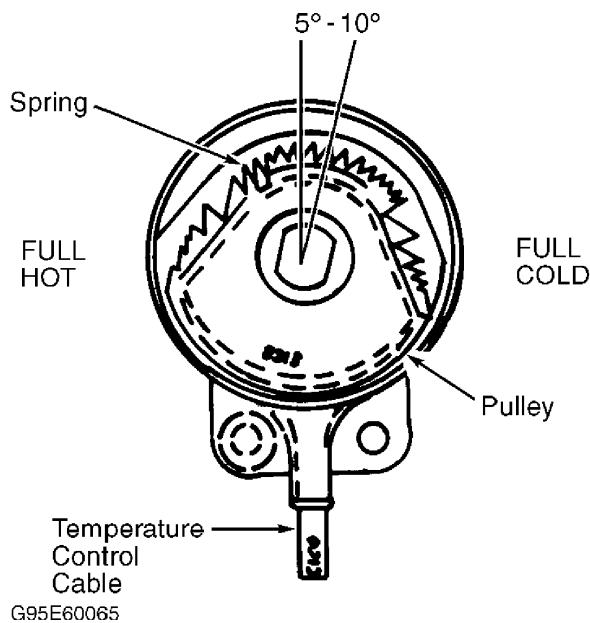

Fig. 2: Adjusting Temperature Control Cable
2) If control cable pulley is offset by 5-10 degrees toward full cold side, no adjustment is necessary. See Fig. 2. If control cable pulley is offset toward full hot side, remove spring from control cable pulley. Rotate pulley 5-10 degrees toward full cold. Install control cable pulley spring. Install temperature control cable to heater housing.